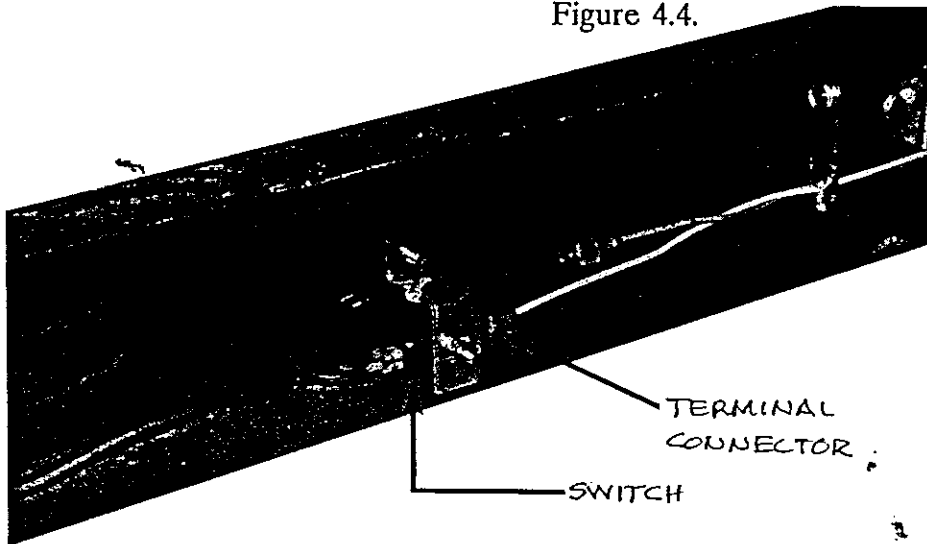
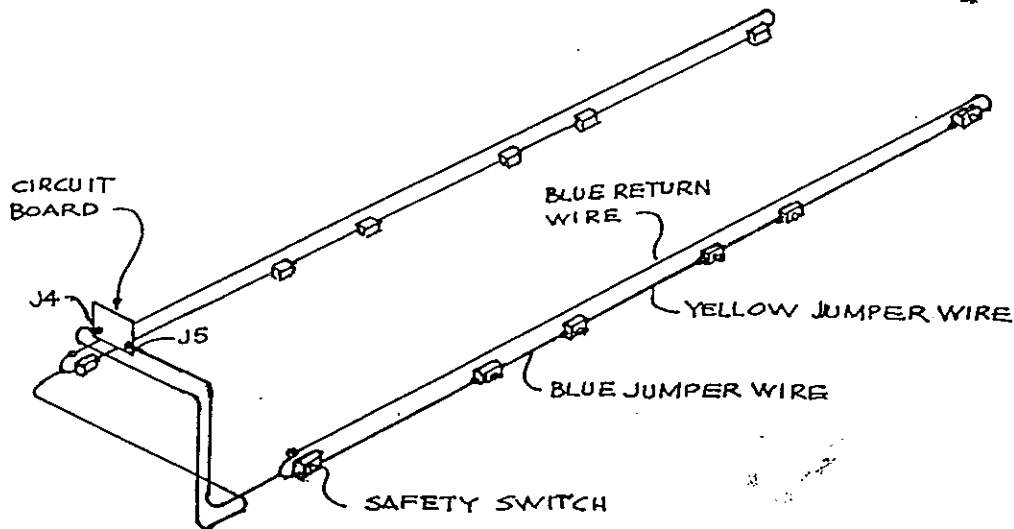

Figure 4.3.
Figure 4.4
STEP 4.3: If the red lights go off, then check all the sweep wire connections and switches for a short or a bad terminal connector. Start at the front and work your way to the back. See Figure 4.3. Check for cable stretch (an indication of internal cable damage), be sure that it is not being caught on the axle. See Safety Sweep Wire Diagram, Figure 4.4.